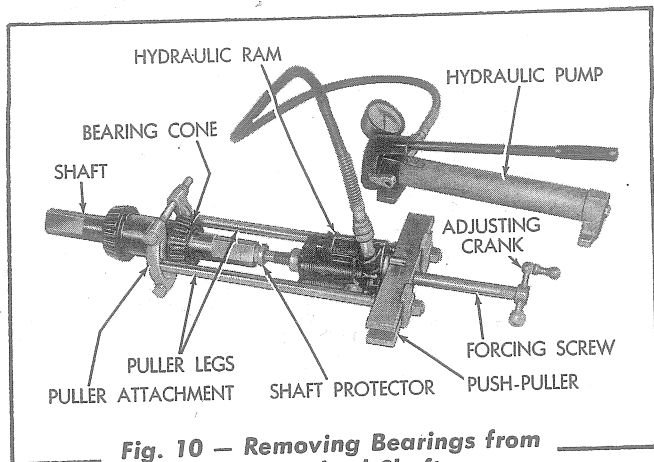

Fig. 10 — Removing Bearings from Truck Wheel Shaft
5. Using special tools similar to the ones shown in Fig. 10, remove the bearings from the truck wheel shaft.
5. Using tools similar to the ones shown in Fig. 10, remove the bearings from the shaft.